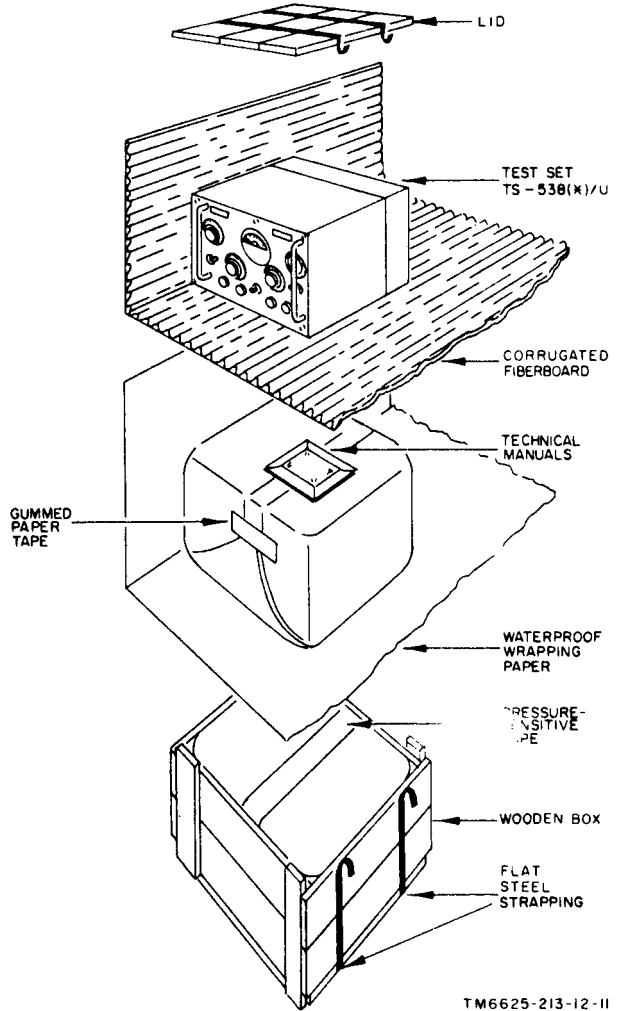

Figure 12. Field repackaging diagram.
**34. Repackaging for Shipment or Limited Storage (fig. 12)**